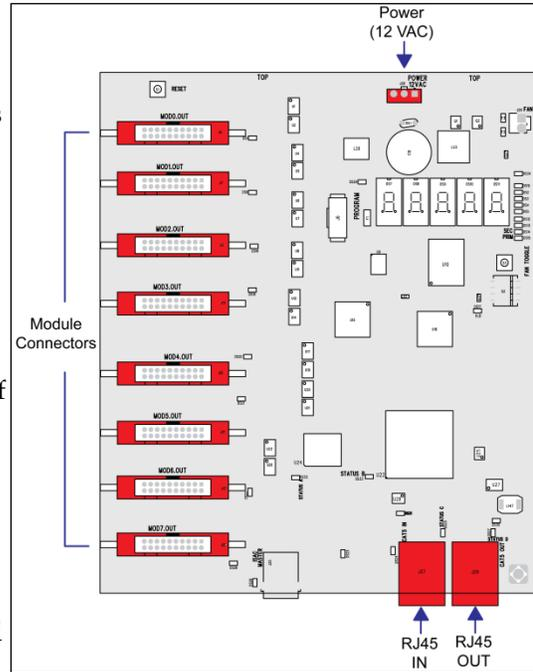

Figure 35: Multi-Line Controller
8. Turn on power and observe the start-up sequence. Note that the LEDs to the right of the fiber jacks are on; DS23 to the left of the fiber cable should be off. Refer to **Figure 28** and **Figure 35** for more information.